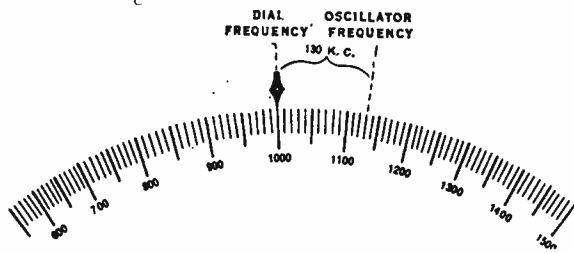

FIG. 261
1. The oscillator in Atwater Kent Type H chassis is always tuned 130 kilocycles ABOVE the dial frequency. Thus: if, as in Figure 261, the dial is tuned to 1000 K. C., the oscillator is simultaneously tuned to 1130 K. C. The difference between these two frequencies produces a beat note or intermediate frequency of 130 kilocycles.